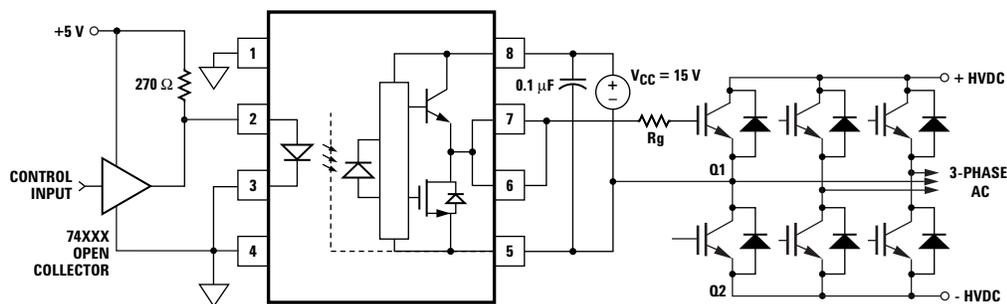

Figure 25. Recommended LED drive and application circuit for HCPL-3180.
negative IGBT gate drive in many applications as shown in Figure 25. Care should be taken with such a PC board design to avoid routing the IGBT collector or emitter traces close to the HCPL-3180 input as this can result in unwanted coupling of transient signals into the input of HCPL-3180 and degrade performance.
Step 1: Calculate R_g minimum from the I_{OL} peak specification. The IGBT and R_g in Figure 25 can be analyzed as a simple RC circuit with a voltage supplied by the HCPL-3180.
For the circuit in Figure 25 with I_F (worst case) = 16 mA, $R_g = 10 \Omega$, Max Duty Cycle = 80%, $Q_g = 100 \text{ nC}$, $f = 200 \text{ kHz}$ and $T_{AMAX} = +75^\circ\text{C}$: